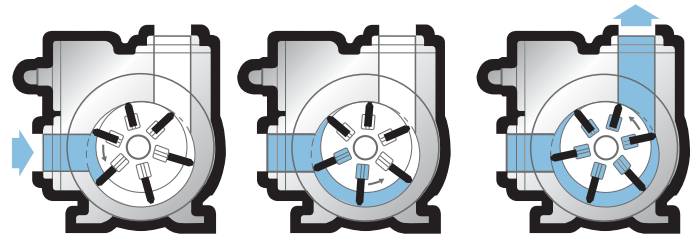
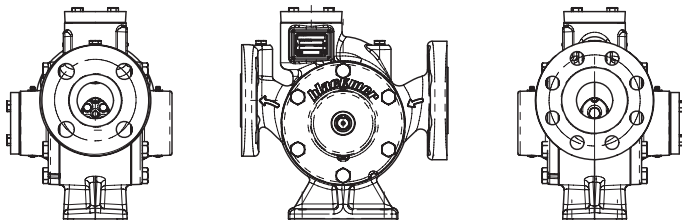
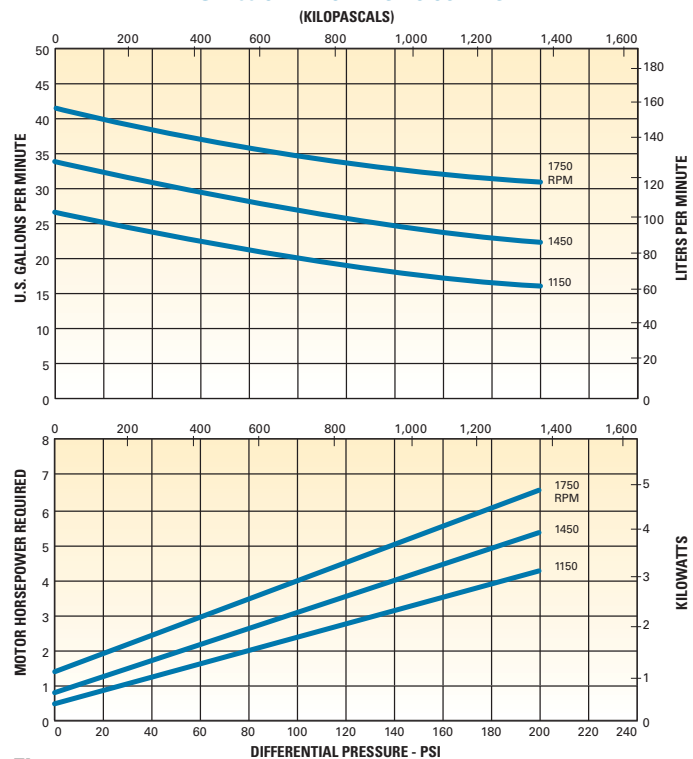

Figure 2
Figure 1
Figure 3
4) **Positive Displacement Sliding Vane Pumps** – used primarily in single and dual hose dispenser applications, sliding vane, positive displacement pumps, such as the Blackmer LGL158 (Figure 1), are designed for high differential pressure liquefied gas applications (13.8 bar/200 psi). In Autogas applications they are used to pump from underground storage tanks and to feed LPG vaporizer/mixer stand-by units (Figure 2). Positive displacement pumps provide a nearly constant flow rate over a wide range of differential pressures and are capable of handling entrained vapors. At 150 psid (10.3 bar) differential pressure, the LGL 158 is rated for 32.3 gpm at 1,750 rpm (60Hz) or 24 gpm at 1,450 rpm (50Hz) (Figure 3) with static suction lift capability up to 4 meters (approx. 13 ft). Typical applications include: